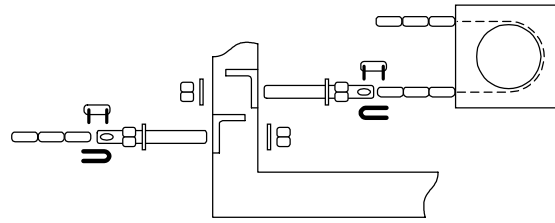

Figure 16
1. Install an endless idler assembly (p/n 2600-818) at the gate opening between the gate and fence (figure 16, 18). Note that the chain is routed between the fence and the gate in this type of installation. **IMPORTANT!! Be sure that the idler assembly is securely attached to the gatepost, pilaster, etc.**
2. Secure the chain brackets to the gate as shown in figure 16. The chain brackets should be attached to the gate frame so that they are approximately one (1) inch apart.
4. Attach the chain to the chain bolts using the master links supplied, and then attach the chain bolts to the chain brackets using the hardware supplied (figure 16). Make any adjustments to the chain length at this time.